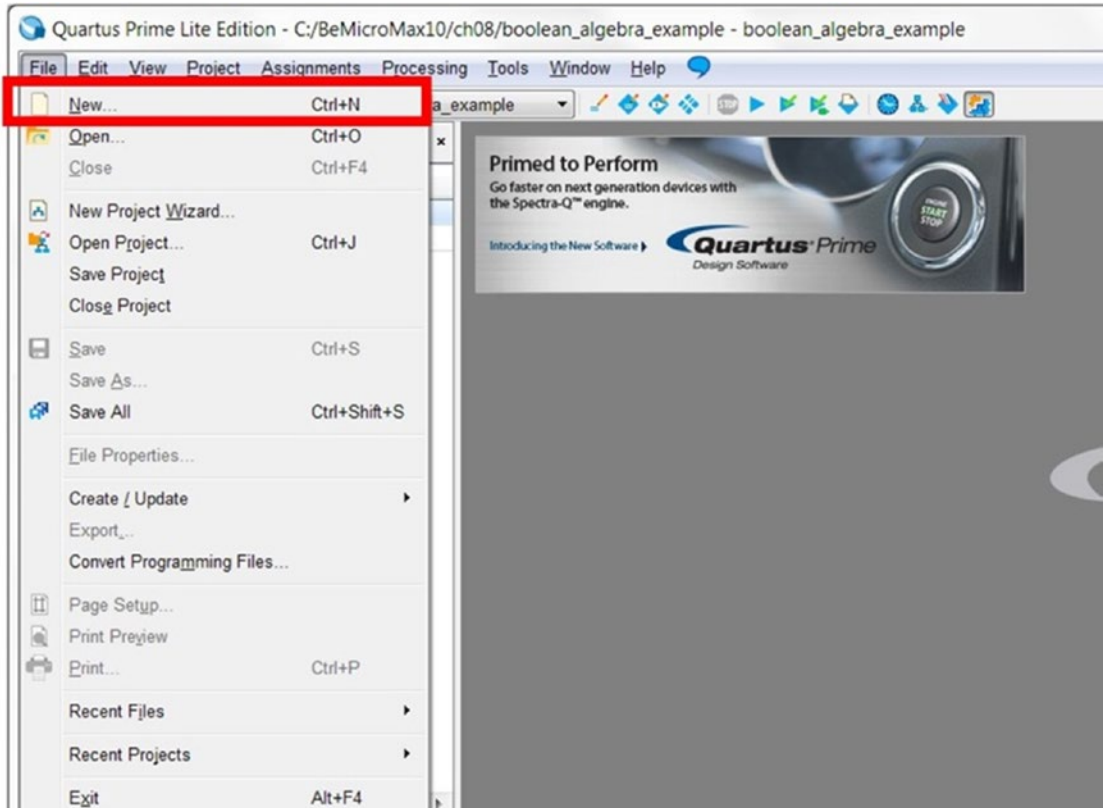

Figure 8-3. Add New file to project
2. Click **File ► New...** from the Quartus Prime menu to add a new VHDL file (Figure 8-3).